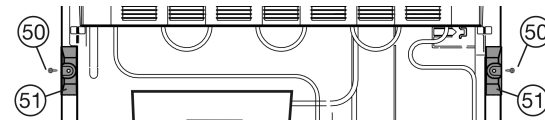

Fig. 15
- Undo the screw Fig. 15 (50) and detach the spacer Fig. 15 (51).